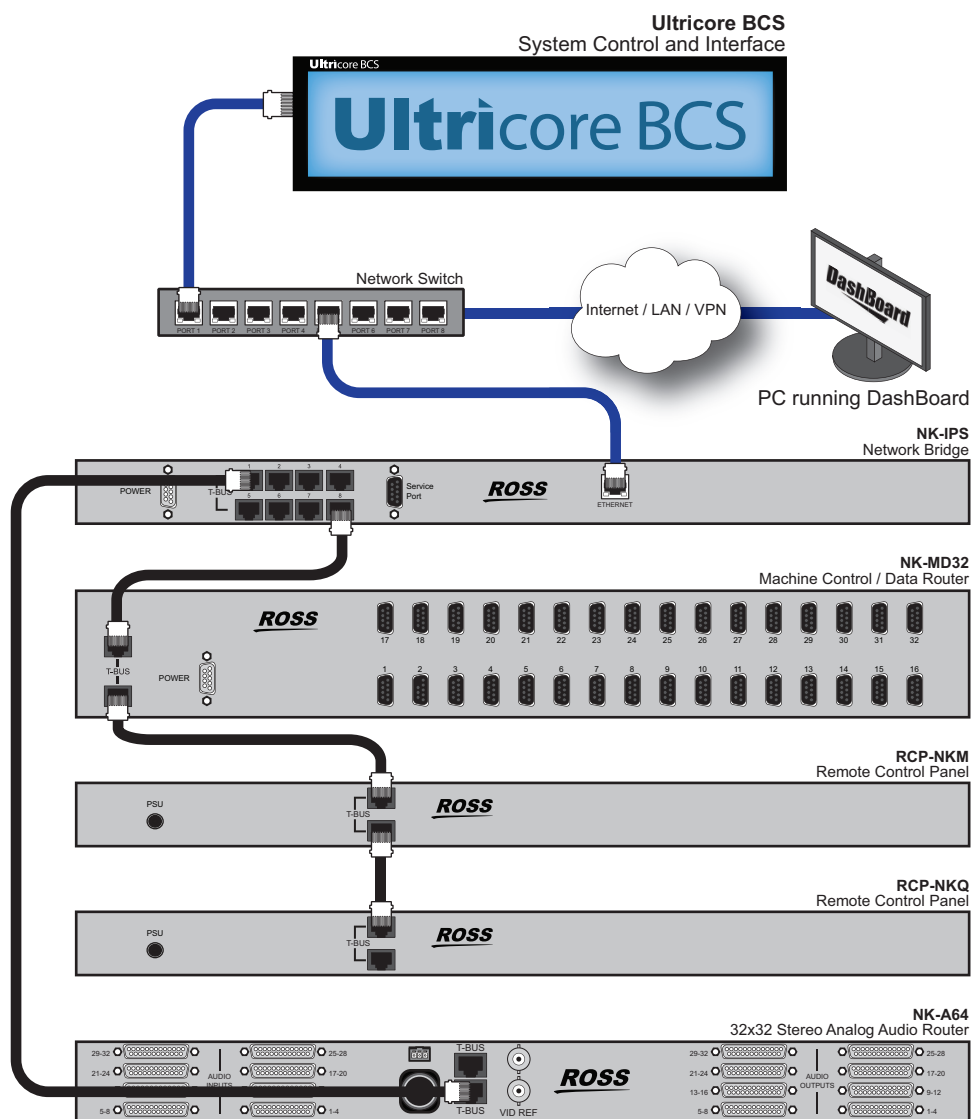

Figure 39 Connection Example with an NK-IPS
**Figure 39** provides an example of a routing system with an Ultracore BCS, an NK-IPS, and several Ross NK devices. Communication between the NK-IPS and the Ross NK devices is over T-Bus, while the Ultracore BCS communicates with the NK-IPS via Ethernet.